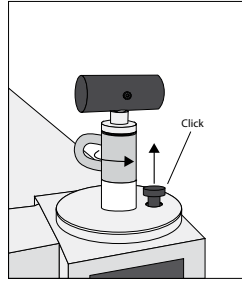

Figure 2
- Pull the safety pin up and turn the handle 90°. When positioned correctly, you will feel and hear a 'click'. (Figure 2)